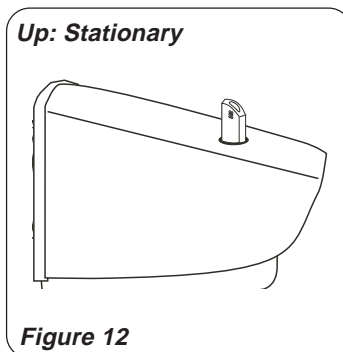

Figure 12
7. **OSCILLATION:** Push down oscillation knob on motor assembly housing to make fan head move from side to side. (**Figures 12 and 13**)